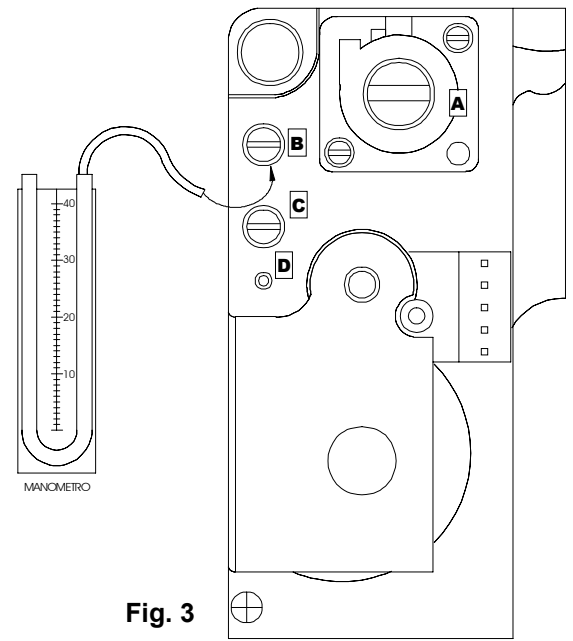

Fig. 3
- Adjust burner gas pressure through screw **A** (fig.3) as follows:
- ◆ Undo the screw of pressure point **B** (fig.3) and insert a pressure gauge.
- ◆ Unscrew and remove the aluminium cap of regulator **A** (fig.3)
- ◆ Tighten the aluminium cap of the regulator, remove the pressure gauge (fig.3) and tighten the **B** pressure point screw.